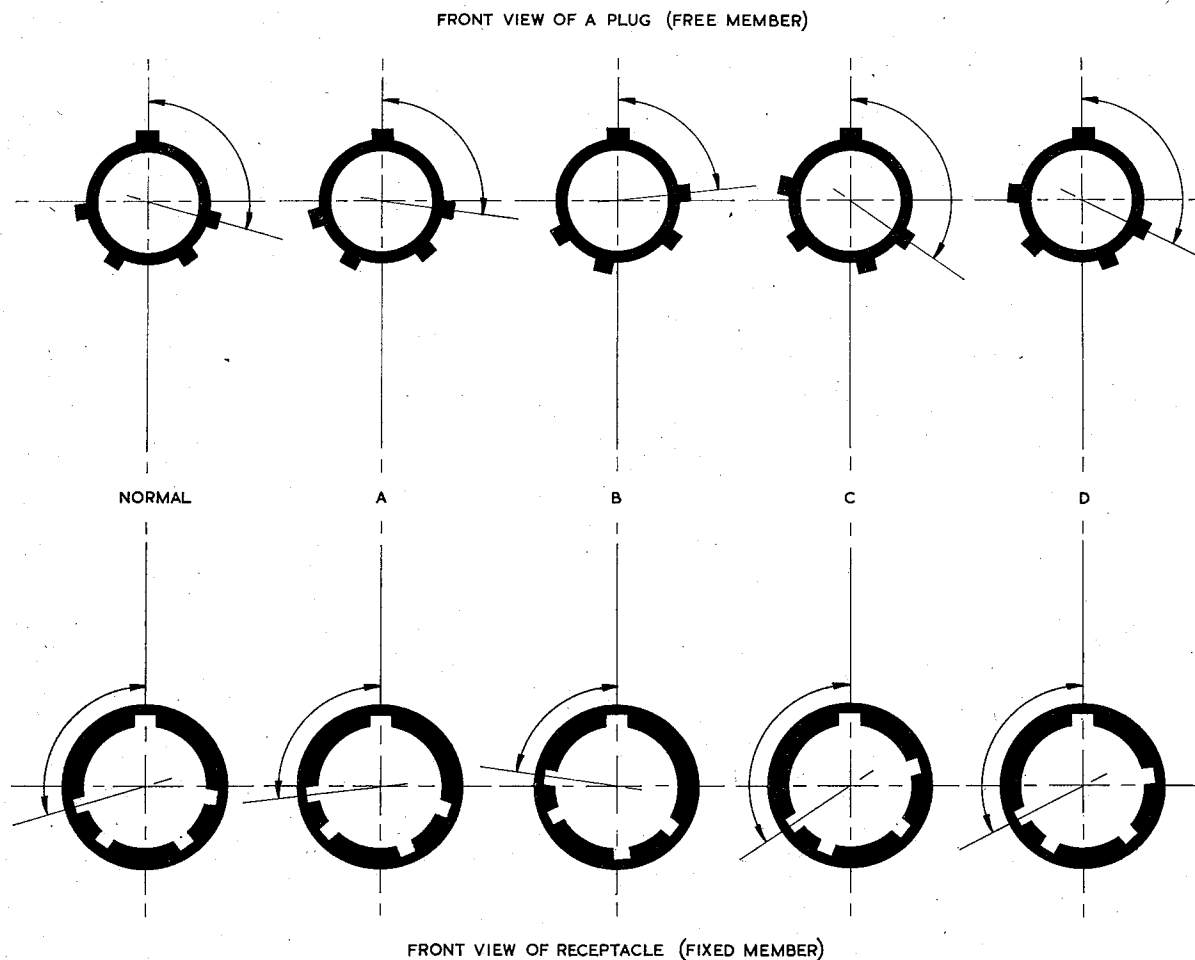

Fig. 4 Keyway orientation
7. Another method used to prevent cross plugging of similar connectors in adjacent positions is by varying the keyway positions in the metal housing (fig. 4). The major key is fixed and used as a datum, while the angular position of the five minor keyways is varied to provide a balanced five point mating of the connectors.